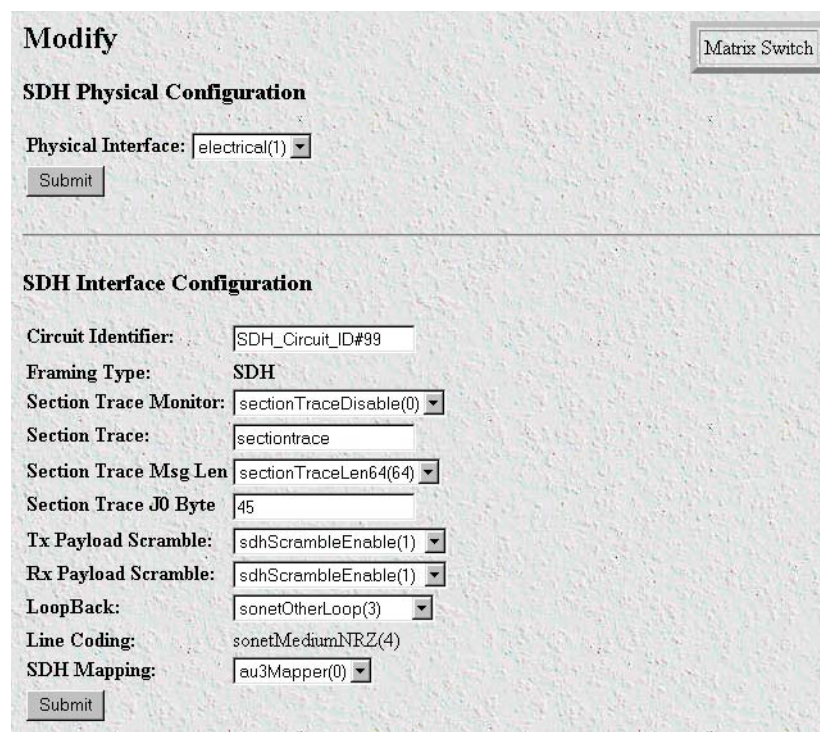

Figure 37. SDH Modify page
2. On the *SDH Overview* page, click the *Configuration...* hyperlink to display the *SDH Modify* page (see figure 37).